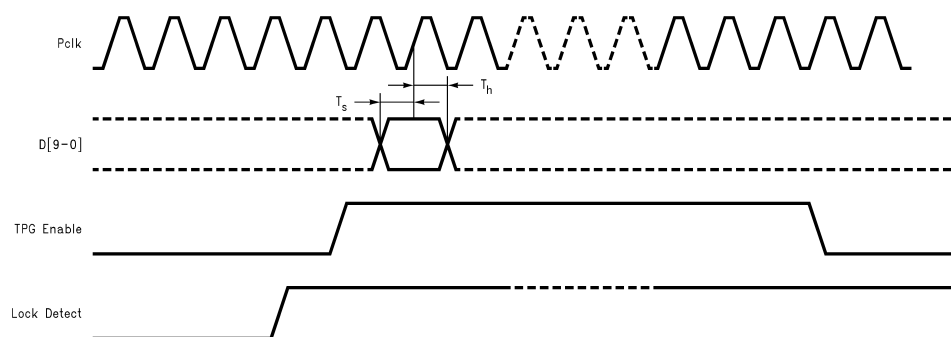

Figure 4. Setup and Hold Timing
| t SU                 | Setup Time                      | See (4) and <a href="#">Figure 4</a>        | D N to P CLK   | 3   | 2   |      | ns                |
| t HLD                | Hold Time                       | See (4) and <a href="#">Figure 4</a>        | D N from P CLK | 3   | 2   |      | ns                |
| t SU                 | Setup Time                      | See (4) and <a href="#">Figure 4</a>        | D N to P CLK   | 4   | 2   |      | ns                |
| t HLD                | Hold Time                       | See (4) and <a href="#">Figure 4</a>        | D N from P CLK | 4   | 2   |      | ns                |